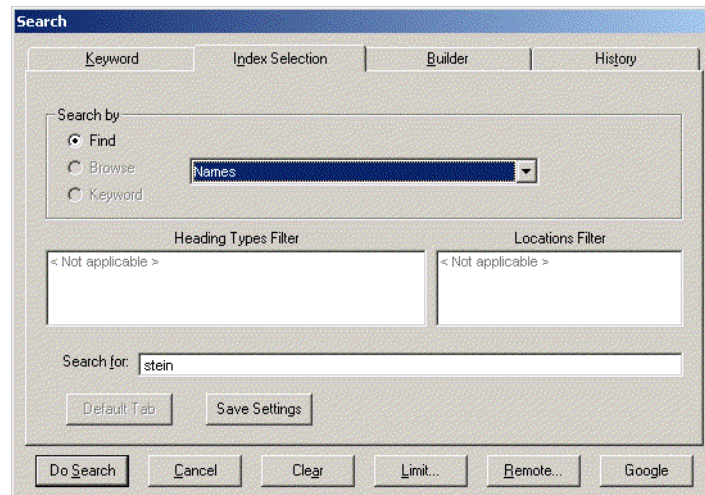

Figure 2-35. Completed Index Selection tab
7. Enter your search term in the **Search For** field (see Figure 2-35).